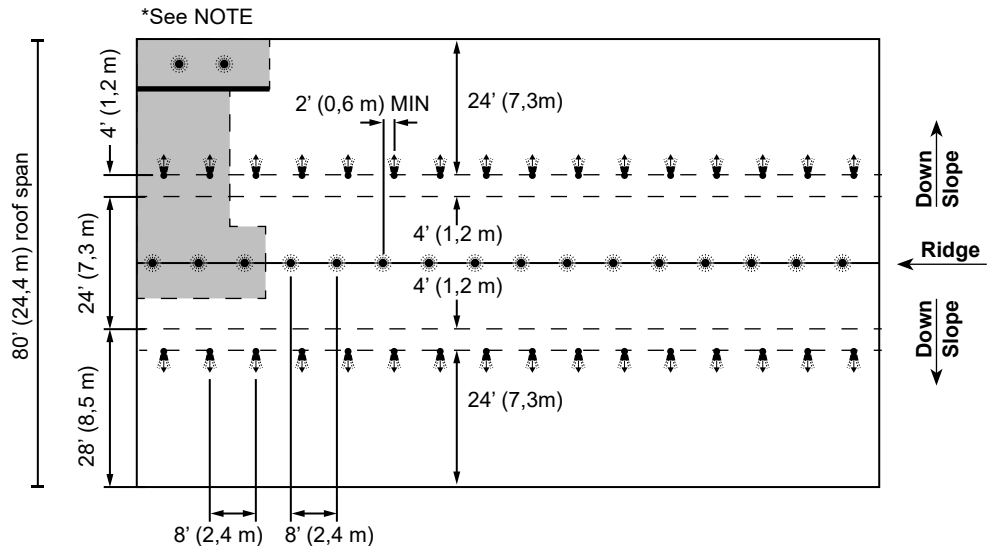

Figure 13B: Wet System Design for 80 ft (24,4 m) Roof Span with Obstruction
2. Figure 13B - Calculate the 5 most demanding sprinklers: